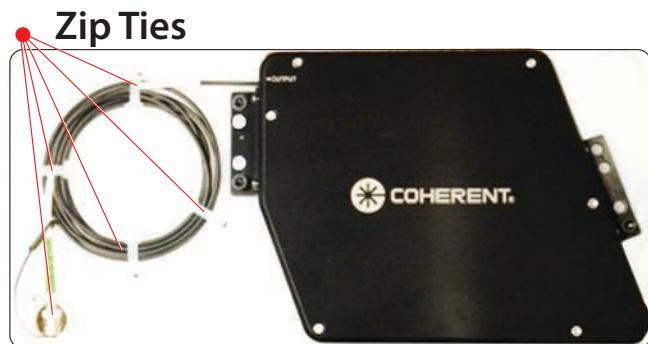

Figure 13-29. Attach Fiber with Zip Ties
2. Coil the output fiber to the correct diameter to fit the plate (about seven coils) and attach it to the shipping plate with five zip ties, as shown in the example in Figure 13-29.